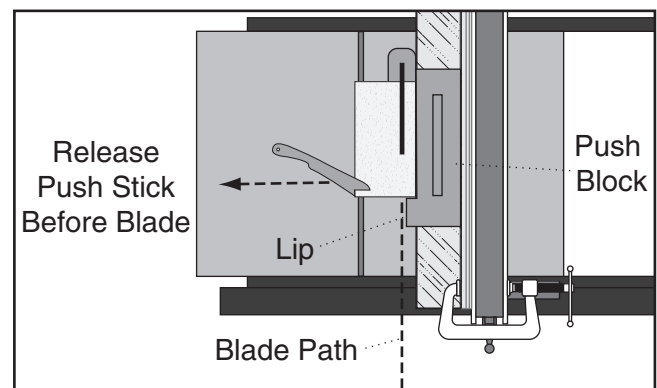

Figure 89. Ripping with push block.
6. Guide workpiece rest of way through cut with push block, as shown in **Figure 89**.